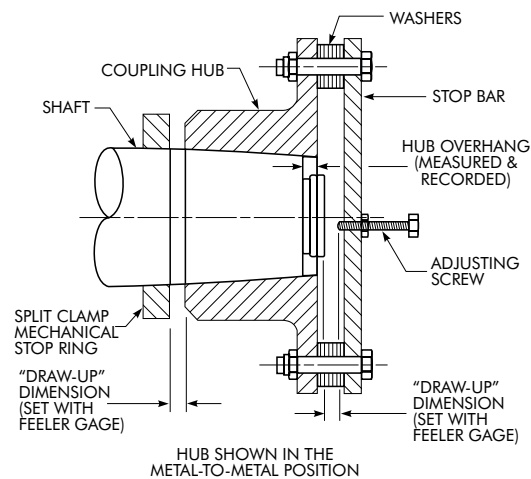

Figure 4
1. **Straight Bore** — Install key(s) in the shaft. Heat the hub in an oil bath or oven until bore is sufficiently larger than the shaft. 350°F is usually sufficient. An open flame is not recommended. However, if flame heating is necessary, use a very large rose bud tip to give even heat distribution. A thermal heat stick will help determine hub temperature. DO NOT SPOT HEAT THE HUB OR DISTORTION MAY OCCUR. With the hub expanded, slide it quickly up the shaft to the desired axial position. A pre-set axial stop device can be helpful. See Figure 4.
key(s). Remount hub, drawing it up the shaft to the desired position on the shaft. The hub may have to be heated in order to reach this position. DO NOT SPOT HEAT THE HUB OR DISTORTION MAY OCCUR. Use the indicator as a guide only. A pre-set axial stop device can be helpful. See Figure 4. Check the final results with depth micrometer. Install shaft locknut to hold hub in place.